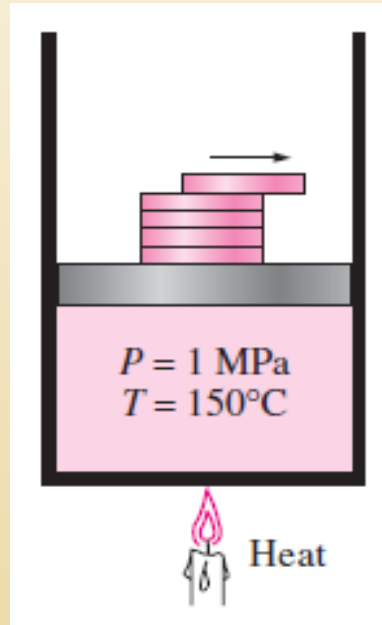

Fig.3.7 The pressure in a piston–cylinder device can be reduced by reducing the weight of the piston.
- Now the weights on top of the piston are removed one by one so that the pressure inside the cylinder decreases gradually (Fig. 3.7).